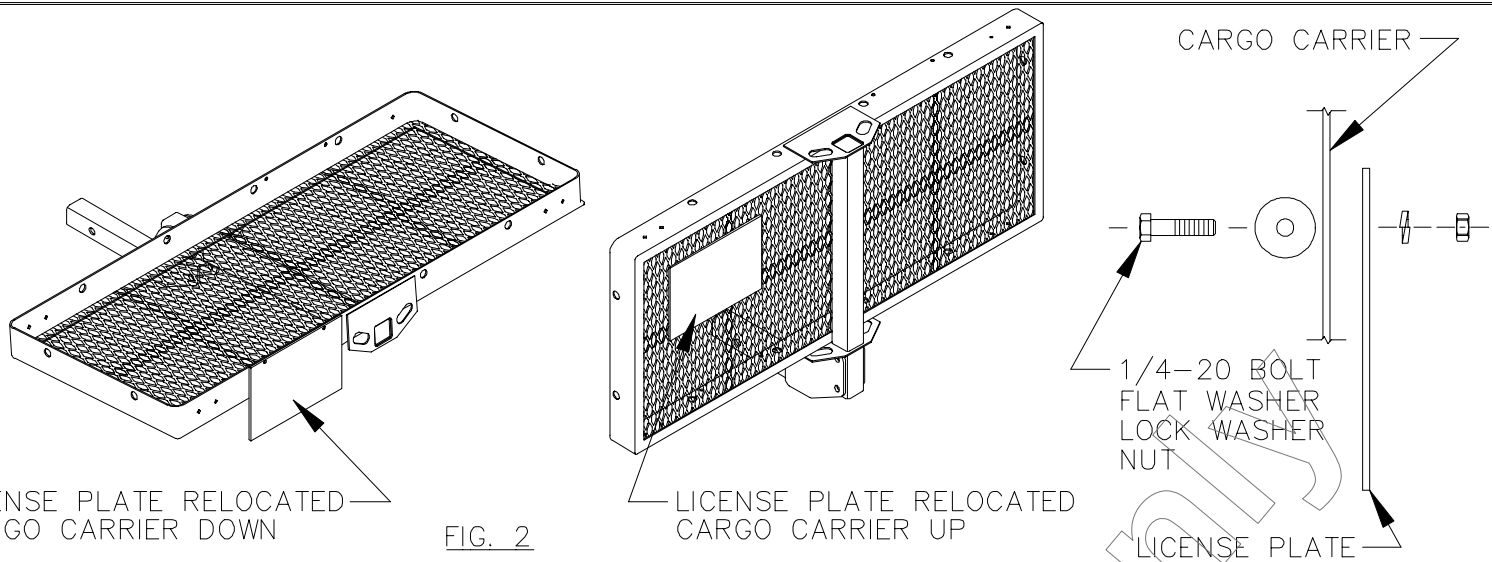

FIG. 2
6. IF THE VEHICLE LICENSE PLATE IS OBSCURED, RELOCATE AS SHOWN IN FIG. 2.
- FOR DAYLIGHT, RELOCATE LICENSE PLATE TO HOLES PROVIDED, SEE FIG 2.